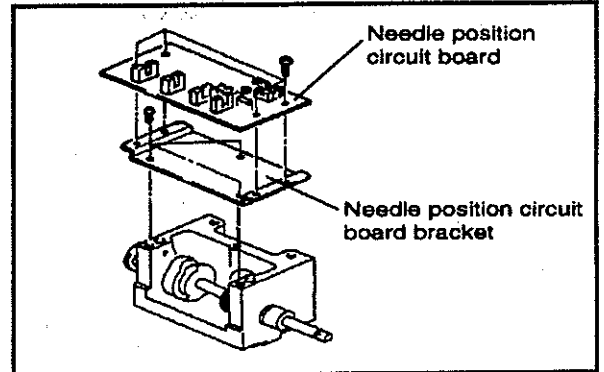

FIG.2
- (2) Remove the needle position circuit board and the bracket (Fig.2) (Refer to "4-15 Needle position circuit board" on page 64.)